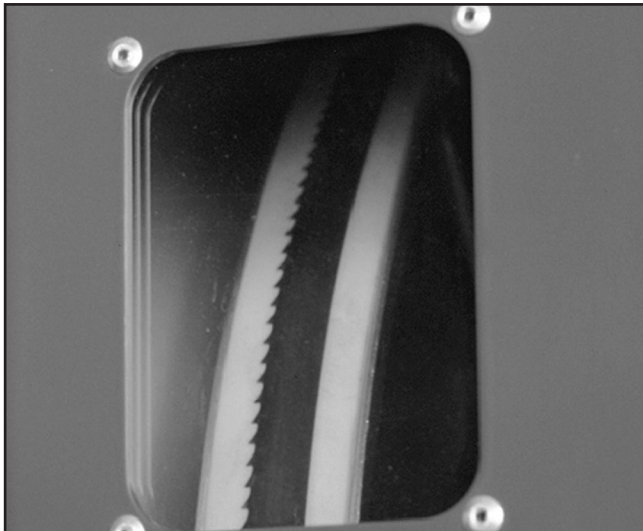

Figure 40. Blade tracking window.
2. Observe the blade tracking path through the clear window on the right edge of the bandsaw, as shown in **Figure 40**.